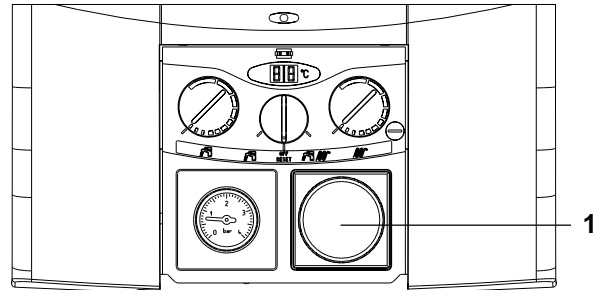

Fig. 1
Remove the clock aperture blanking plate (1) fig.1 by squeezing the 4 lugs on the rear of the plate together and push the plate out.